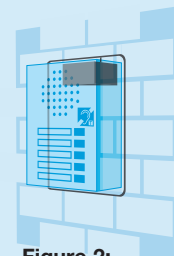

Figure 2: Door Intercoms
- **Smaller loop inside intercom case (see figure 2)**